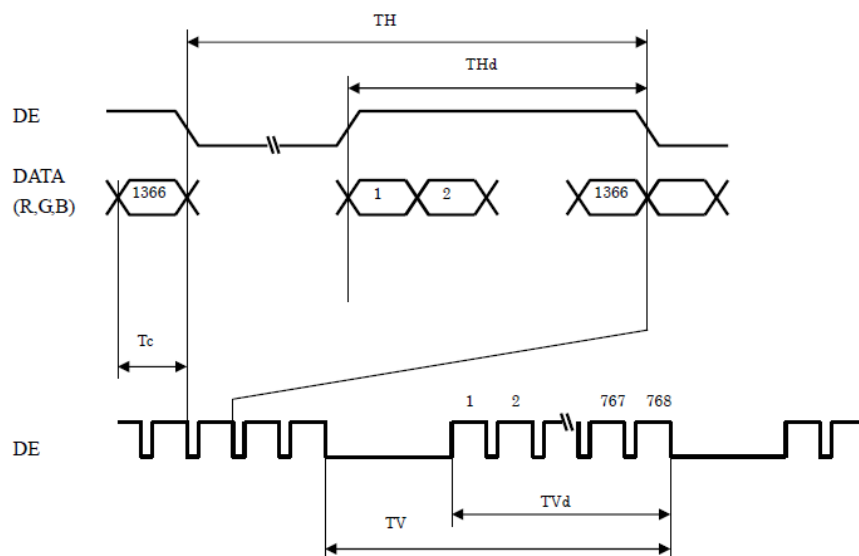

Fig.7-1 Timing characteristics of input signals
*Timing diagrams of input signal are shown in Fig. 7-1.